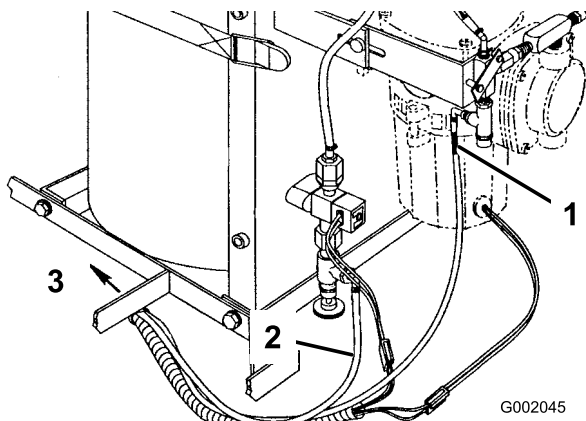

Figure 3
4. Mark a 108 inch supply hose with a black marker at each end (Figure 3).
5. Connect the marked supply hose to the hose barb at the compressor and the other supply hose to the hose barb on the needle valve (Figure 3).